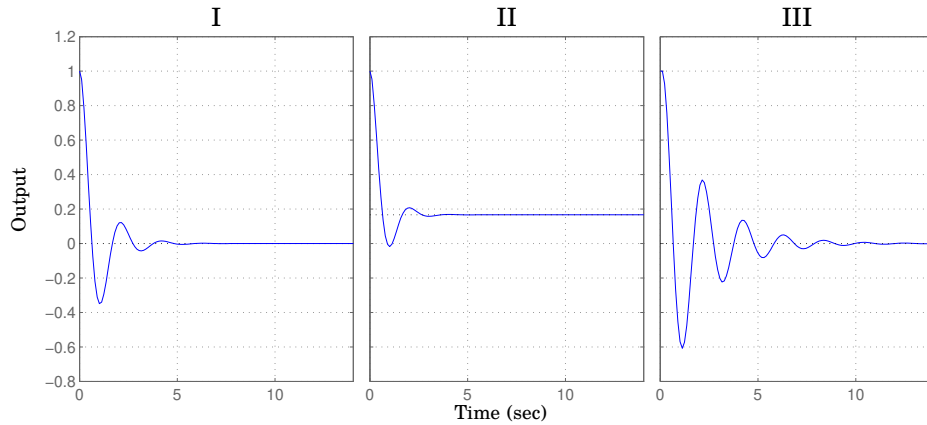

Figure 2.9 Load disturbance step responses in Problem 2.6.
- Figure 2.9 shows responses to a step output disturbance, v , corresponding to the three different control designs C_1 – C_3 . Match the controllers C_1 – C_3 with the step responses I–III.